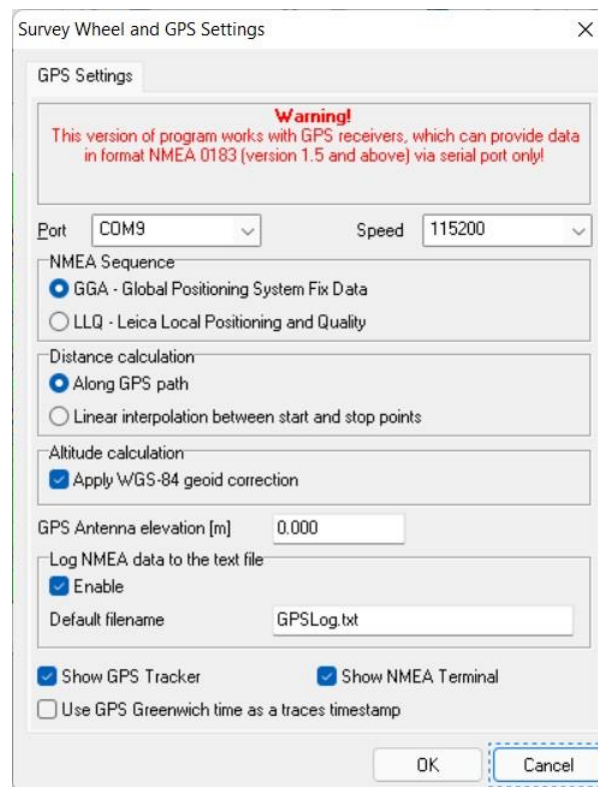

Fig.8.5. GPS/GNSS settings
- **GPS** - global positioning system or **GNSS** - global navigation satellite system (it combines signals from different satellite navigation systems as GPS [USA], GLONAS [Russia], GALILEO [European Union], BeiDou [China], NavIC/IRNSS [India] and QZSS [Japan]). Software supports GPS/GNSS receivers which outputs coordinates in NMEA 0183 format (version 1.5 and higher). The latitude and longitude are recorded in the header of each trace, which are used to calculate the current coordinate of the trace and the traveled distance. The GPS/GNSS settings for pairing with the GPR and its data presented in GPS settings window (Fig. 8.5).